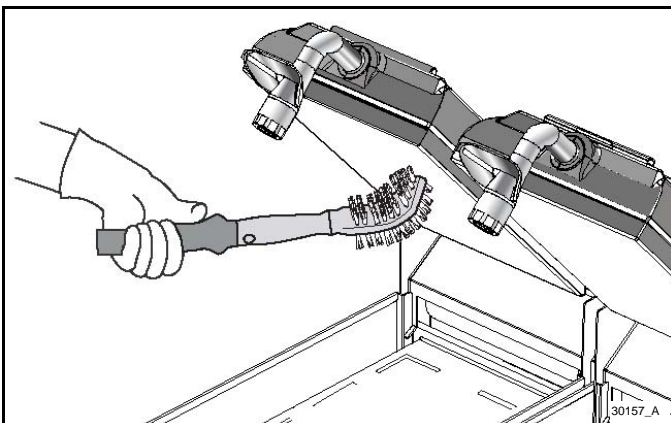

Figure-156
27. If needed, scrub the upper platen with the Kay® double-sided grill brush. See Figure-156.